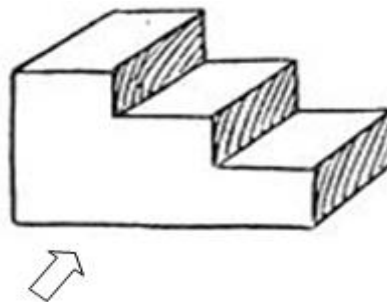

Figure 1
15. **Figure 1** shows a wooden block. Sketch the following views: